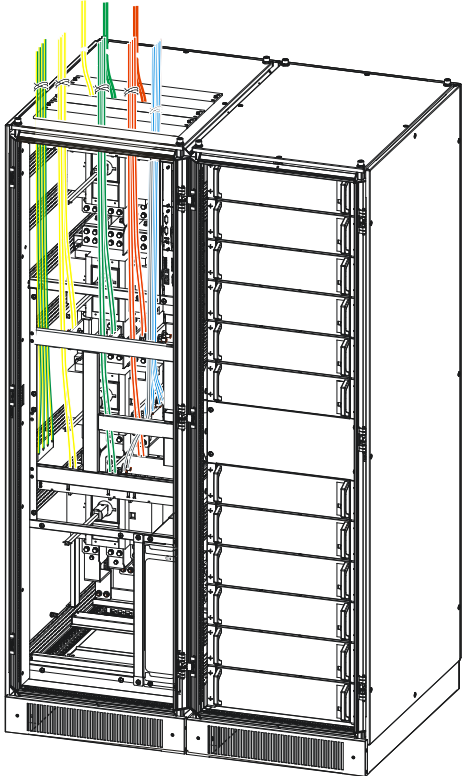
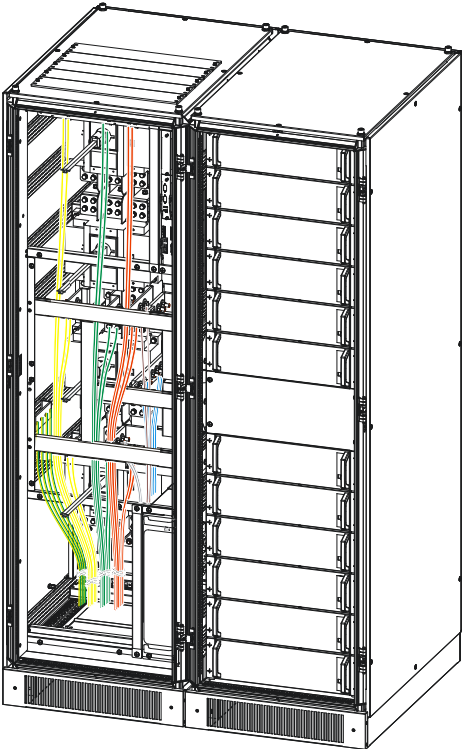

Figure3-29 Wiring diagram of distribution cabinet (top wiring)
Figure3-30 Wiring diagram of distribution cabinet (bottom wiring)
- Step 4 After wiring, fasten the cables to corresponding epoxy plate by cable tie (as shown in Figure3-29, Figure3-30), and install the wiring cover plate again, and then install the handle of switch. The wiring is finished.